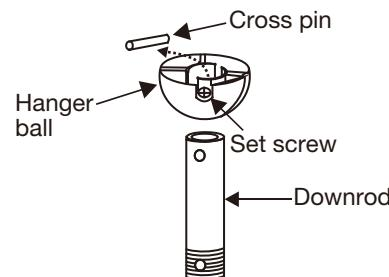

Fig. 1
- 1 Remove ball from downrod by loosening set screw in the side of the ball. Slide ball down and remove cross pin; remove ball. (Fig. 1)
1. Insert the receiver into the ceiling mounting bracket with the flat side of the receiver facing the ceiling. (Fig. 1) For best performance, make sure the Black Antenna and WIFI Antenna, on the end of the receiver, remains extended and not tangled with any of the electrical wires.